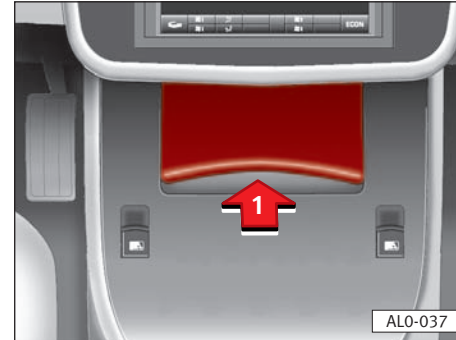

Fig. 118
To open ashtray push the cover in the direction of arrow ① until the cover is set in place while ashtray is completely open ⇒ fig. 118.